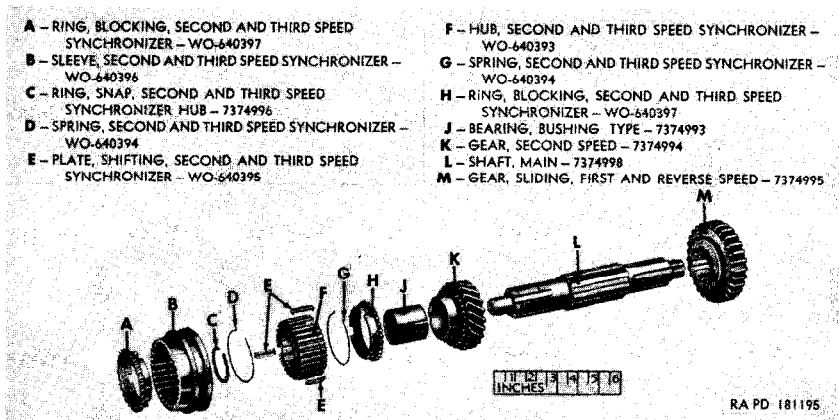

Figure 59. Transmission main shaft assembly—disassembled view.
a. *Remove Synchronizer Assembly* (fig. 59). Remove the second and third speed synchronizer hub snap ring (C). Remove the synchronizer assembly (sleeve (B), blocking rings (A and H), and hub (F)) as a unit from main shaft (L). Slide the second speed gear (K), and first and reverse speed sliding gear (M) off main shaft.
b. *Disassemble Synchronizer Assembly* (fig. 59). Slide second and third speed synchronizer sleeve (B) from second and third speed synchronizer hub (F). Remove the blocking rings (A and H). Remove the three second and third speed synchronizer shifting plates (E) from hub. Remove the two second and third speed synchronizer springs (D and G) from inside hub.
(fig. 59)